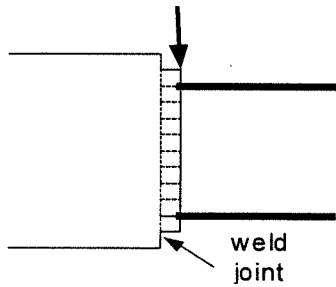

Figure 3: Expansion fitting connected to straight tubing
- When measuring the length of straight pipe that is connected to an expansion, contraction or valve, the measurement should begin after the weld joint which fastens the pieces together. Refer to Figure 3 for clarification. The bold black arrow indicates the starting point.